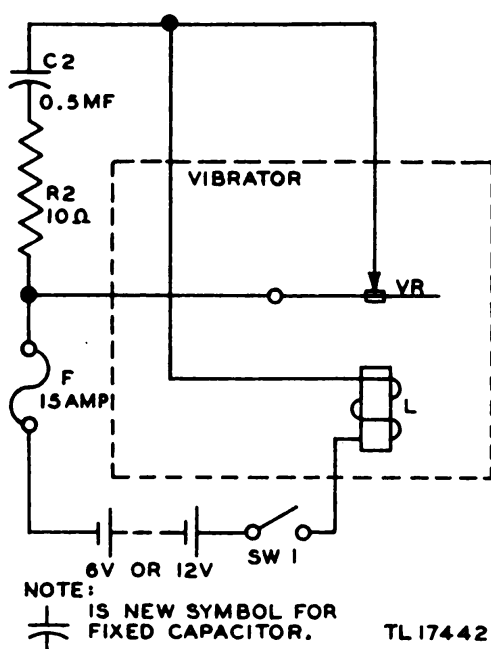

Figure 6. Functional diagram of vibrator actuating circuit.
**α. Vibrator Unit.** Although the vibrator unit is a synchronous type, it is operated as a nonsynchronous vibrator by wiring together the two metal contact points found on each side of the vibrating reed. The vibrator actuating coil L (fig. 6) is energized by battery current from a circuit completed through the single contact on the vibrating reed. When the energized coil L pulls the vibrating reed toward it, the energizing circuit is broken. The